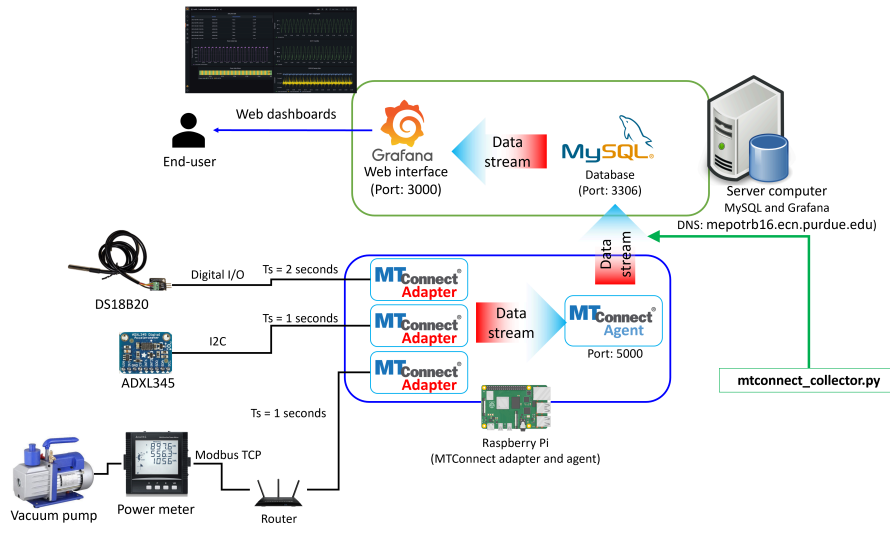

Figure 19 Schematic of the entire monitoring system for Lab7
Finally, in this section, you need to build up the entire system as Figure 19. Perform the last task below. MTConnect collector Python script (the answer of Prelab7 Task1.4) using XML parsing is given. But you have to modify some front parts indicated with asteriks below.
- Build up the entire monitoring system as Figure 19. The requirements are below.